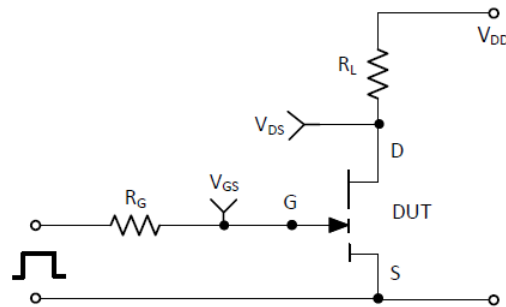
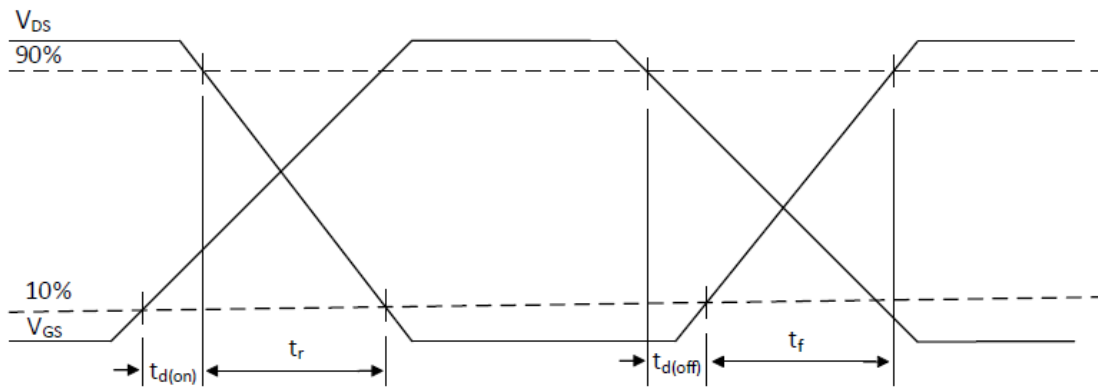
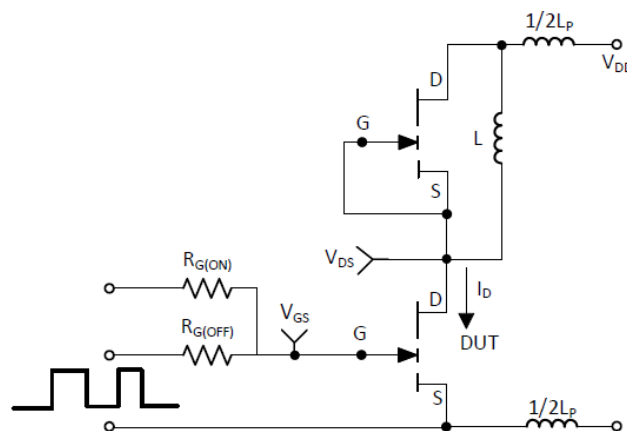

Figure 16: switching time test circuit
Figure 17: switching time waveforms
Figure 18: Switching Loss Test Circuit
(6) See Figure 16 for timing test circuit diagram and Figure 17 for definition waveforms
(7) L_P = parasitic inductance
(8) See Figure 18 for switching test circuit